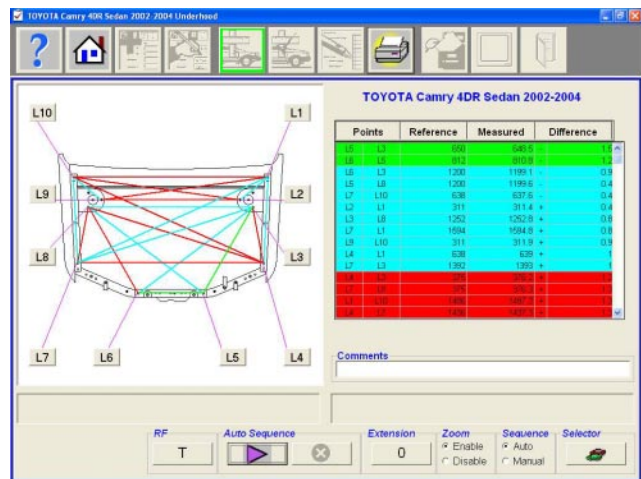

Figure 24
3. Select the Auto Sequence start arrow and the program will sequence through the measuring of all the points. Reference, measured, and the difference between the two are displayed on the screen. The measurements in the table and on the graphics are color coded to display which measurements are within the user defined allowable tolerance. See Figure 24.